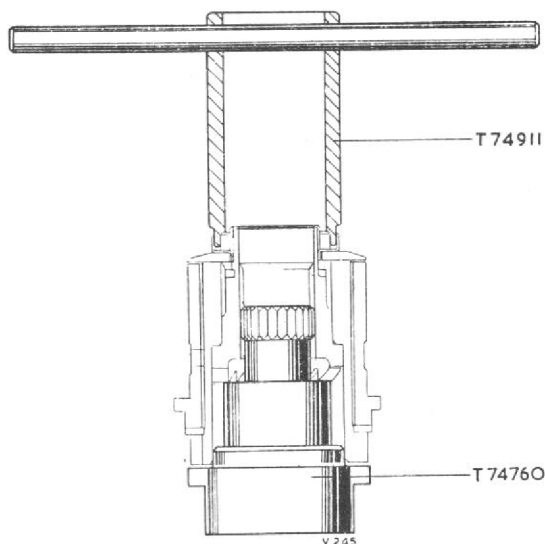

Fig. 2. Tightening the nut on the upper drive
- (1) Place the upper driving gear, gear downwards, on press block T74760.
- (2) Position the thrust washer over the shaft of the gear.
- (3) Using adapter T74761, press the thrust washer on to the shaft until it abuts the teeth of the gear. Remove the gear from the press block.
- (4) Assemble the upper driving gear, gear downwards, to the starter dog.
- (5) Position the starter dog and drive gear assembly, teeth downwards, on press block T74760.
- (6) Transfer the press block and gear assembly to a bench vice.
- (7) Position the drive gear bearing, flange downwards, over the shaft of the drive gear. Care must be taken that the drive gear is clean and free from burrs and sharp edges before fitting the bearing.
- (8) Assemble the retaining washer, bevelled side facing up, a new cup locking washer (Part No. N2873) and the ring nut.
- (9) Tighten the nut with serrated spanner T74911 (fig. 2).
- (10) Using a dial test indicator, check that the end float is within the limits. If the end float is too great a new retaining washer (Part No. 91616) will be required; too little end float may be corrected by facing off the retaining washer. Ensure that the gear can rotate freely.
- (11) Lock the nut by lightly tapping the cup-washers into the serrations of the nut at two opposite positions.